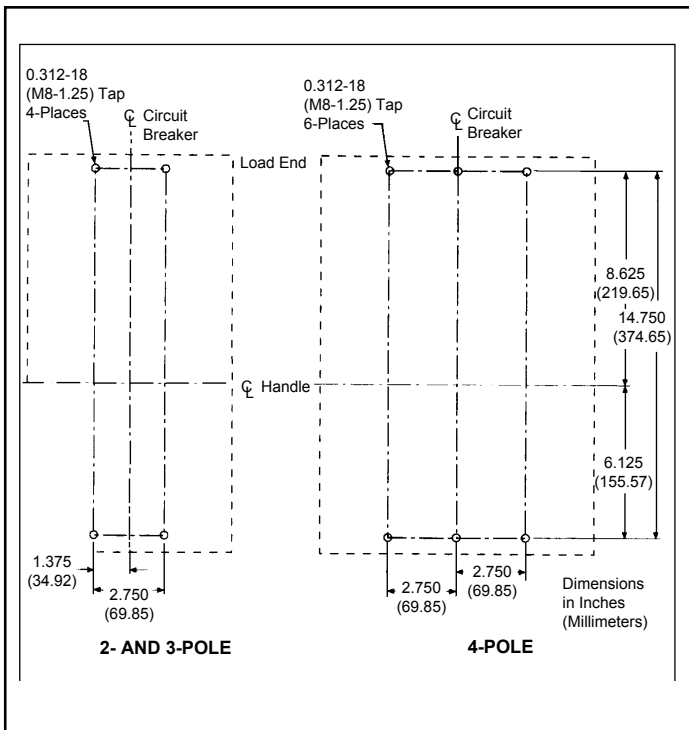
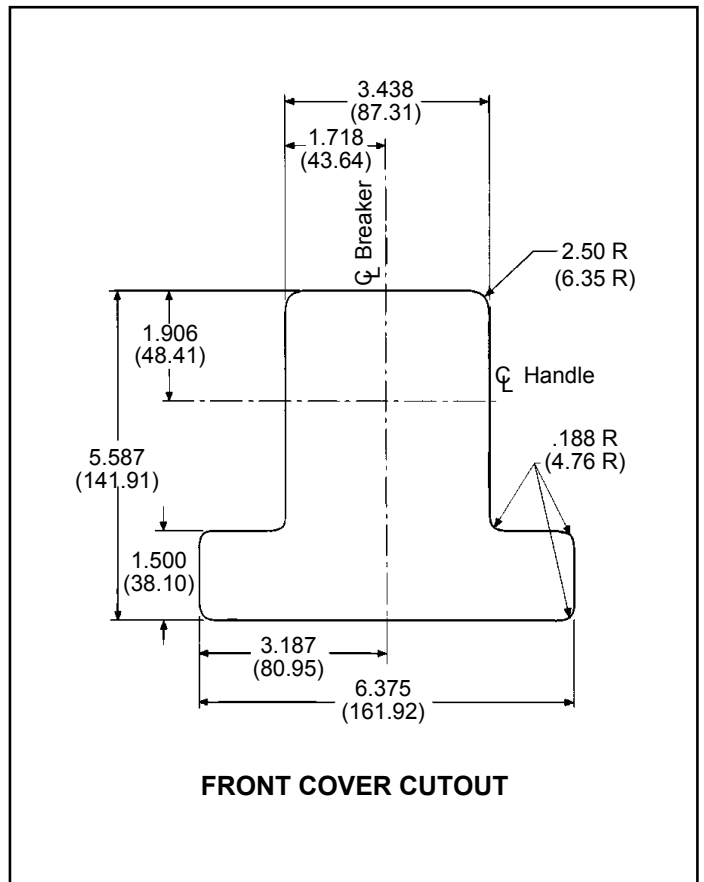
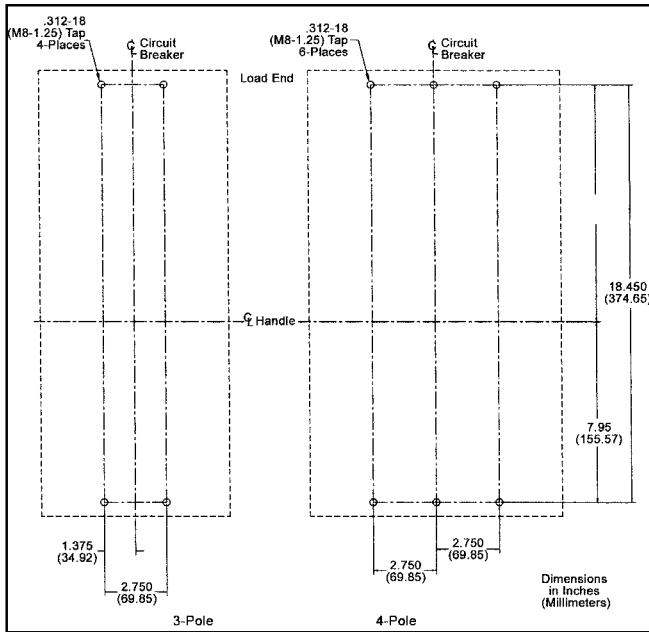

Figure 2-5. Breaker Mounting Bolt Drilling Plan - 800A, 1200A, 1250A Circuit Breaker and 1600A front connected Circuit Breakers.
Figure 2-6. Circuit Breaker Escutcheon Dimensions.
Figure 2-7. Breaker Mounting Bolt Drilling Plan - 1600 A Rear Connect Circuit Breaker.
- a. For individual surface mounting, drill mounting panel using the drilling plan shown in Figure 2-5. For dead front cover applications, cut out cover to correct escutcheon dimensions, see Figure 2-6.
a. For individual surface mounting, drill the mounting panel using the drilling plan shown in Figure 2-7. For dead front cover applications, cut out cover to correct escutcheon dimensions, see figure 2-6.